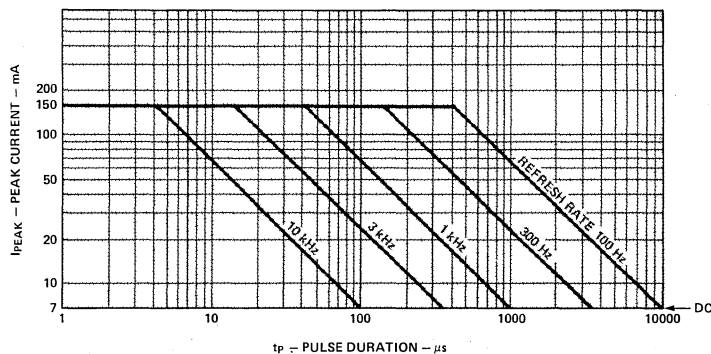

Figure 1. Maximum Allowed Peak Current vs. Pulse Duration. Derate derived operating conditions above  $T_A = 50^{\circ}C$  using Figure 2.
- Maximum allowed drive conditions for strobed operation are derived from Figures 1 and 2. See electrical section of operational considerations.